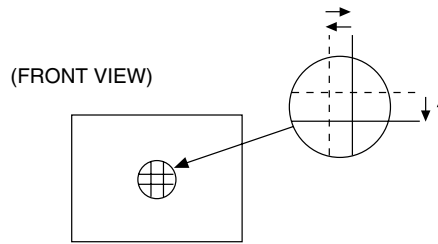

Fig. 7
2. Using 4-pole convergence magnets, overlap the red and blue lines in the centre of the screen (Fig. 7) and turn them to magenta (red/blue).